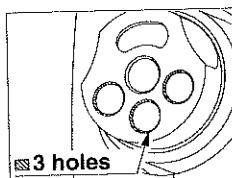

Figure 6
1. Apply a small amount of silicone grease around the three holes in the cable socket. (Figure 6)